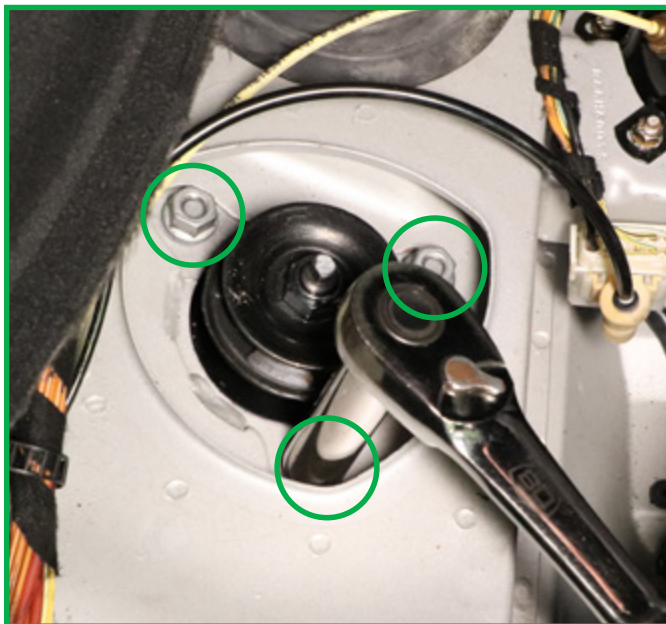

FIGURE 23
3. Remove the three (3) top mount nuts. (Figure 23)